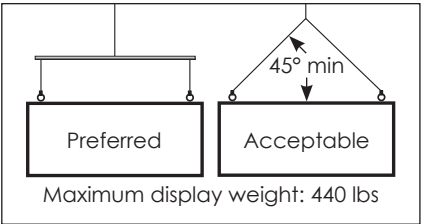

Figure 4: Lift Display
3. Lift the display sections from the shipping crate using every lifting point provided. Refer to **Figure 4** and the **RTX Shipping Frame Instructions (DD1944253)** for details. The sections may tip forward when lifting. Do not set the sections on the ground.